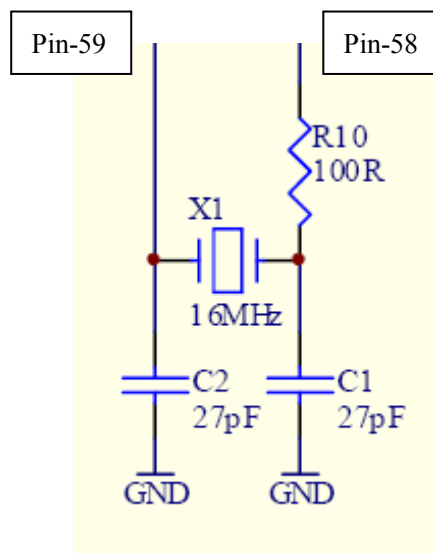

Figure 2 – 16MHz quartz crystal circuit for 80C188 microprocessor
3.4. The 80C188 microprocessor needs a clock reference to operate properly. Here a 16MHz quartz crystal device is applied to provide such time reference. The crystal circuit diagram is shown in Figure 2. Pin-58 and Pin-59 belong to the 80188C microprocessor. **Solder the crystal IC onto the PCB.**